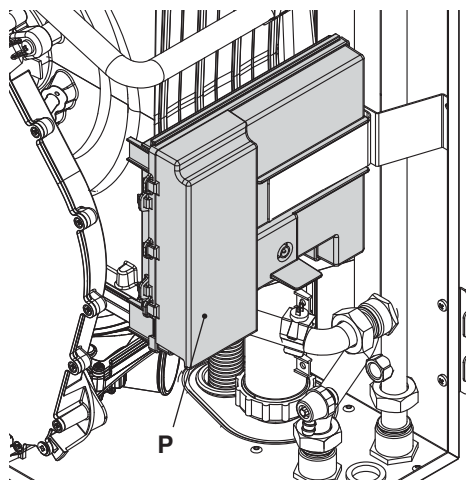

Fig. 6.15
- Identify the terminal block cover lid " O " (Fig. 6.15) and open it.